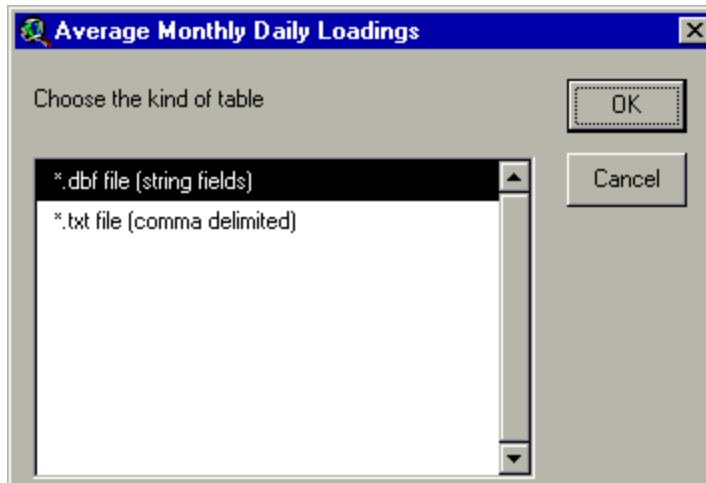

Figure 10.11
- ii. A prompt box will appear so that the user can specify the format of the file containing the monthly inlet discharge loadings (Figure 10.11). Select dBASE (.dbf) or text file (.txt) and click **OK**.